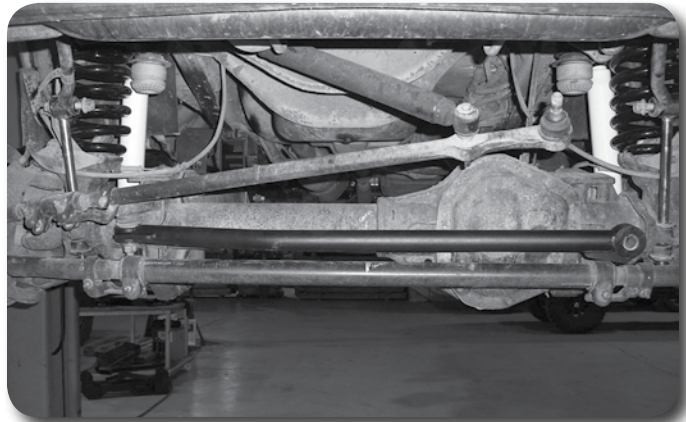

Figure 17
40. Attach the new assembled front track bar to the original ball joint mount of the passenger's side of the axle. **Figure 17** Fasten with the factory nut and torque to 184 ft-lbs. The frame end will be attached with the vehicle's weight on the suspension.